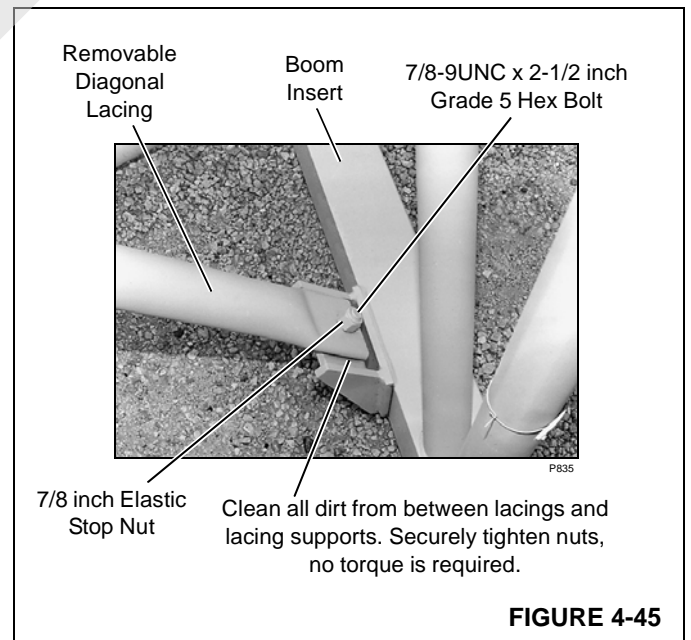

FIGURE 4-45
2. Reinstall proper number of removable lacings in each insert with bolts and stop nuts as shown in Figure 4-45.